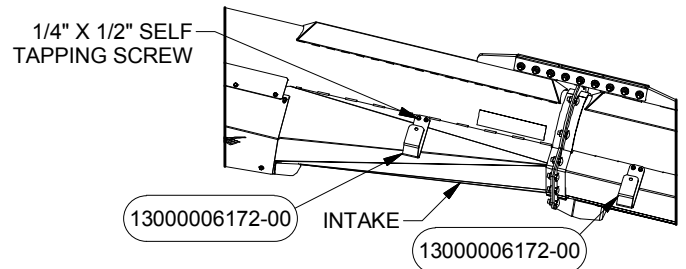

FIGURE 3
3. Attach the Hose Holder PN# 6172 in to the Tube Assembly using Self Tapping Screws. Fasteners can be found in Bolt Bag PN# 7303/ 7304/ 7305. See Figures 3 and 4 for locations.